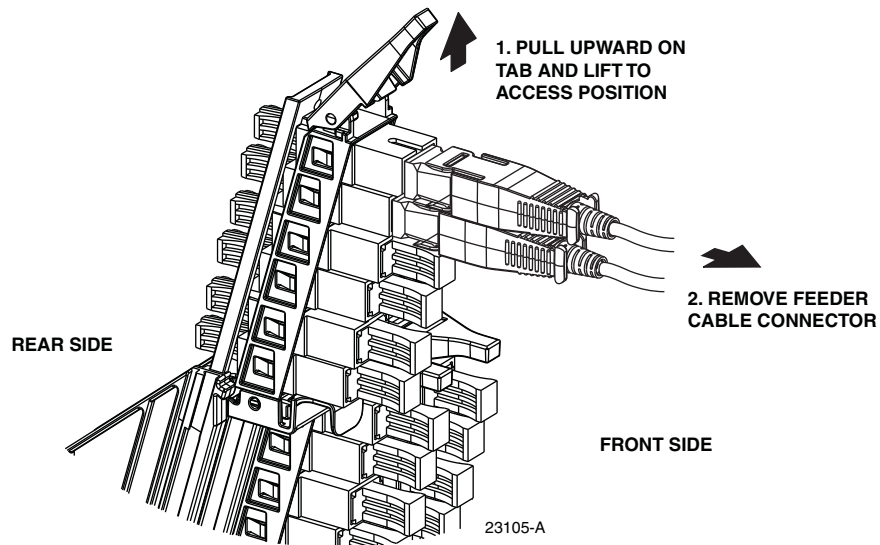

Figure 72. Typical Adapter Pack Raised to Access Position
3. Pull upward on the small tab on top of the adapter pack and lift the adapter pack to the position shown in Figure 72.